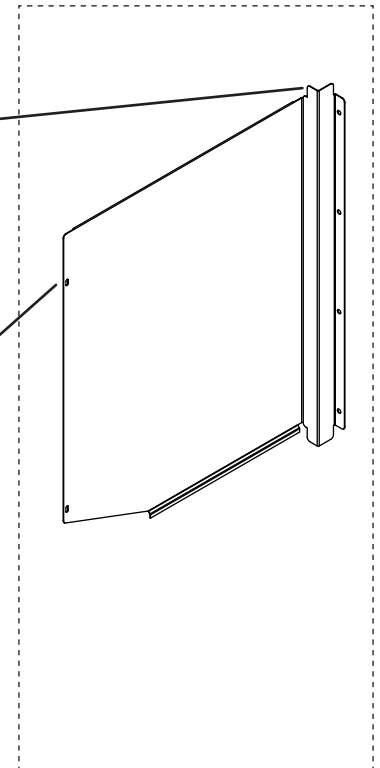

Fig. 5 - Corner splash shield
2. Install the optional splash shield, if included with machine, see Fig. 5. Detailed instructions can be found in Appendix A at the rear of this manual.